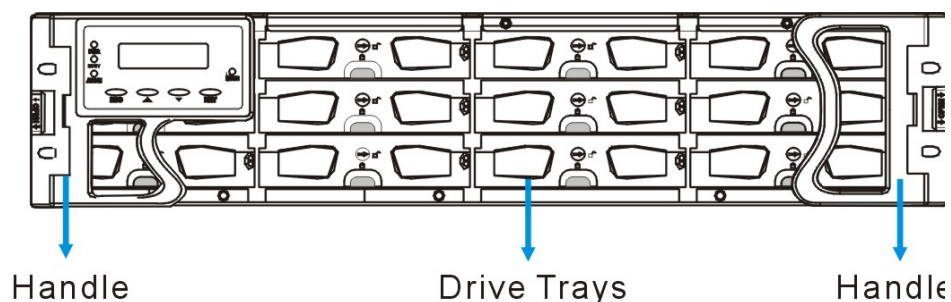
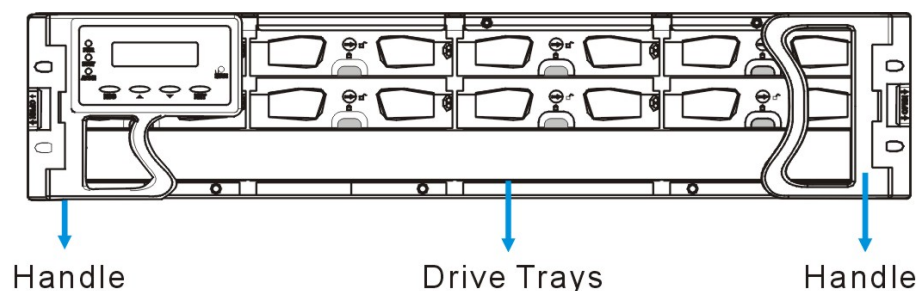

Figure 1-5: Front View – A12U 12-bay Model
Figure 1-6: Front View – A08U 8-bay Model
The front section of the subsystem features a 4 x 2 or 4 x 3 layout for eight (8) or twelve (12) 3.5-inch disk drives and a foldable LCD keypad panel. The front panels of the RAID subsystems described in this manual are shown in *Figure 1-5* and *Figure 1-6*. A description of each front panel component is given below:
The front panels shown in *Figure 1-5* and *Figure 1-6* are designed to accommodate the following components: